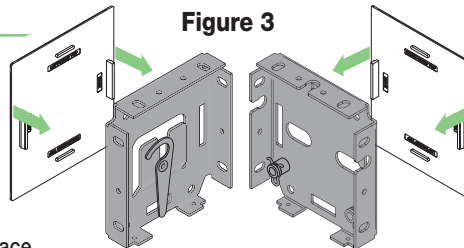

Figure 3
1. Snap endcap covers into place (see Fig. 3).